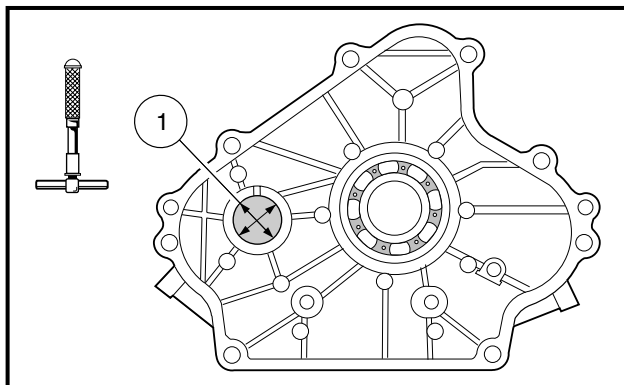
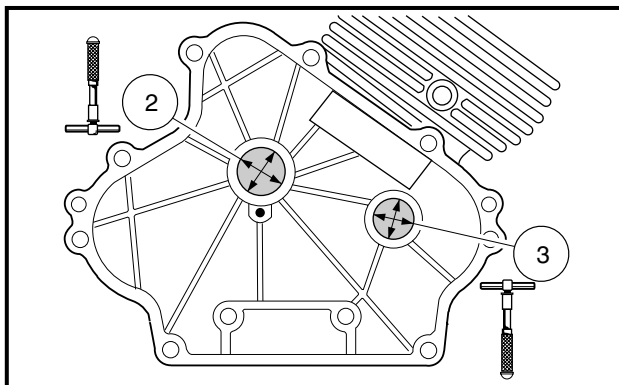

Figure 2-86 Inspect Bearing Surfaces in Crankcase
Figure 2-87 Inspect Camshaft Surface in Crankcase Cover
1. Inspect the camshaft surfaces, one in the crankcase (3) (**Figure 2-86, Page 2-38**) (and the other in the crankcase cover (1) (**Figure 2-87, Page 2-38**)). Use an inside micrometer or telescoping gauge to measure the inside diameter of each bearing surface. If the inside diameter is greater than 0.9080 inch (23.063 mm), replace the crankcase and/or the crankcase cover.
2. Inspect the crankshaft bearing surface (2) in the crankcase. Use an inside micrometer or telescoping gauge to measure the inside diameter of the bearing surface. If the inside diameter is greater than 1.1841 inches (30.075 mm), replace the crankcase (**Figure 2-86, Page 2-38**).